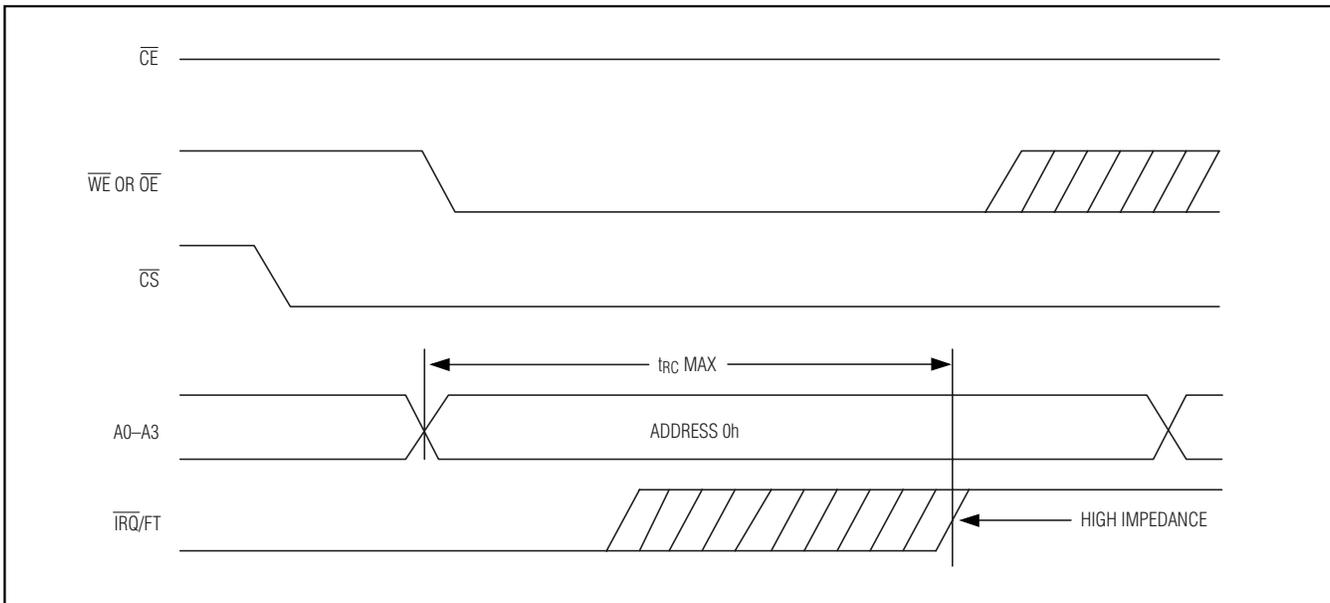
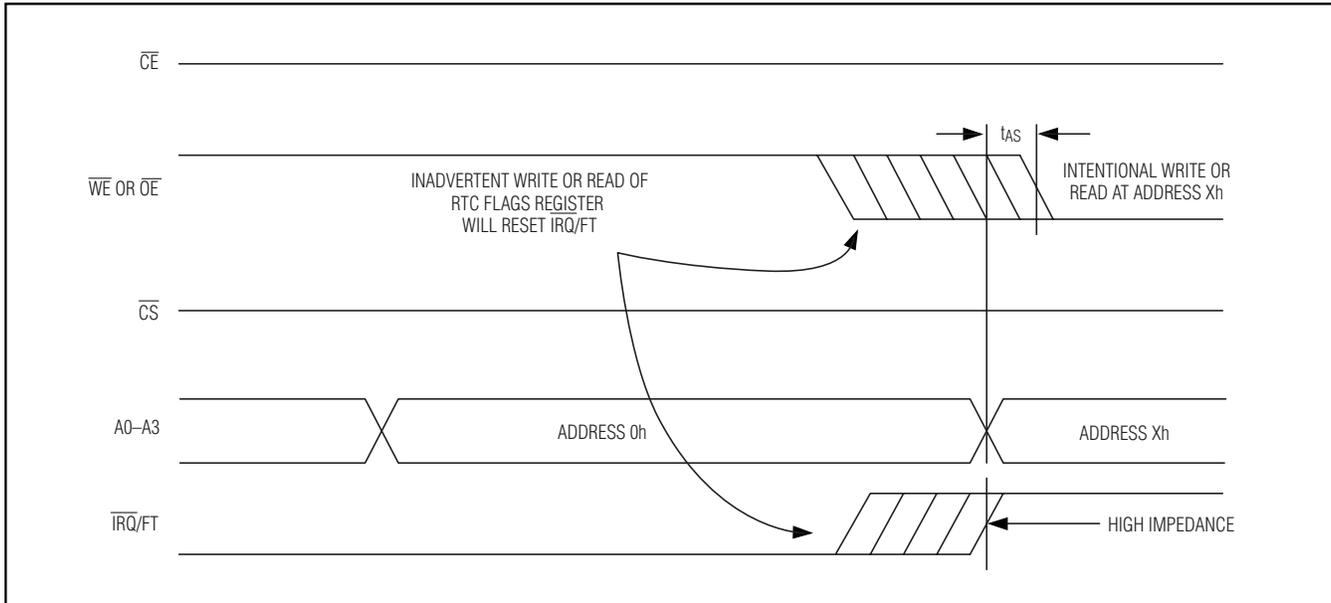

Figure 1. Clearing Active IRQ Waveforms
Figure 2. Prevent Accidental Clearing of IRQ Waveforms
When the RTC register values match alarm register settings, the alarm flag (AF) is set to a 1. If AE is also a 1, the alarm condition activates the  $\overline{\text{IRQ/FT}}$  output. When  $\overline{\text{CS}}$  is active, the  $\overline{\text{IRQ/FT}}$  signal can be cleared by holding the  $\overline{\text{FLAGS}}$  register address stable for  $t_{\text{RC}}$  and forcing either  $\overline{\text{OE}}$  or  $\overline{\text{WE}}$  active (see Figure 1). The flag does not change state until the end of the read/write cycle and after the  $\overline{\text{IRQ/FT}}$  signal has deasserted. To avoid inadvertently clearing the  $\overline{\text{IRQ/FT}}$  signal while preparing for subsequent write/read cycles at other register addresses, assure that  $t_{\text{AW}}$  is met for that subsequent address (see Figure 2).